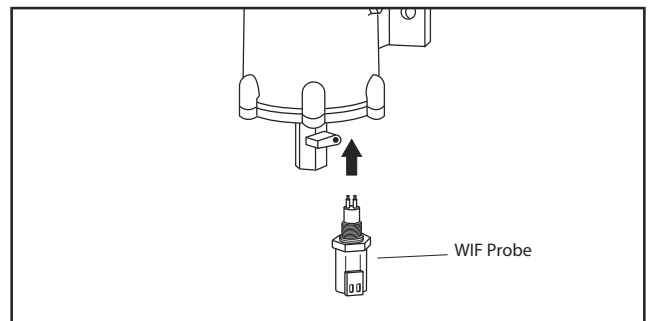

Figure 2 WIF Probe Installation
1. Install the WIF Probe into the bottom of the Fuel Pro (see Figure 2). Torque to 20-25 in-lbs (2.3-2.8 N·m).